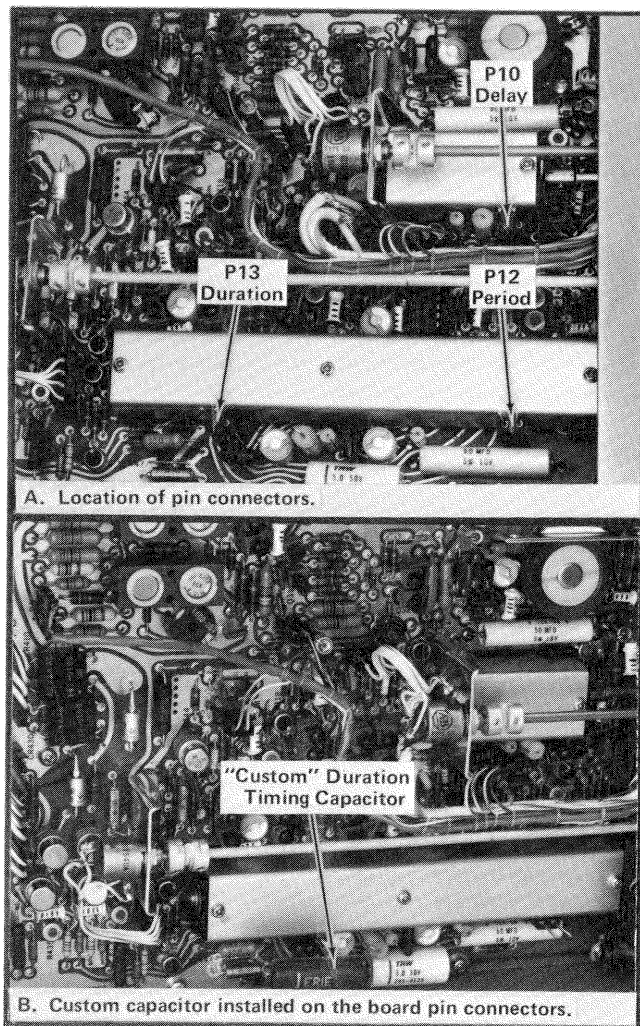

Fig. 4-1. Installing custom timing capacitors.
A special position is provided on the pulse characteristic selectors (PERIOD, PULSE DURATION, and DELAY) which provides a unique (custom selected) timing characteristic. The location of the pin connectors for these capacitors is shown in Fig. 4-1. Install the capacitors as follows:
2. Solder the capacitor across the terminals of the plug connector as shown in Fig. 4-1. The pin connector can be removed from its holder by prying the top of the connector out of its locked position in the holder with a small bladed screwdriver.
3. Plug the connector, with the mounted capacitor, back on the board pin connectors (see Fig. 4-1). Insure that the capacitor leads are clear of other terminals to prevent electrical shorts.